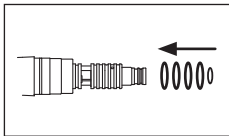

Fig. 44
- ➌ Insert the complete set of new O-rings in the correct grooves (Fig. 44).